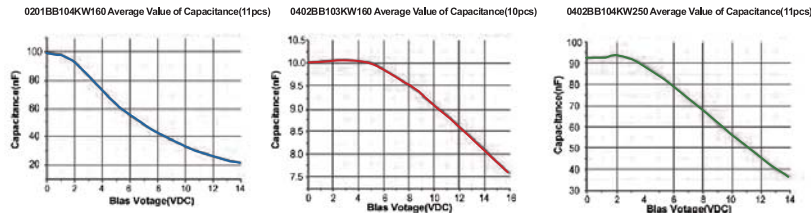

Fig.15 Capacitance change with DC voltage for three Dalicap broadband MLCCs
- The voltage coefficient of capacitance, VCC, is the change of capacitance — usually a decrease - with applied voltage. In general, VCC depends on the electric field (volts/mil) across the dielectric, and the higher the dielectric constant, the greater the VCC. Any decrease in capacitance is likely to impact the low-frequency range of performance. Fig. 15 shows the capacitance change with DC voltage for three PPI broadband MLCCs.